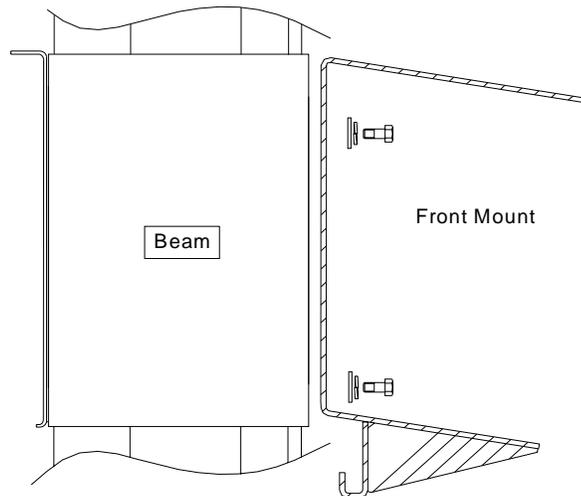

FIGURE 3
14. When front mounting the beam, simply secure the bracket to the cradle on the front of the carrier using four 1/4"-20 x 1" HHCS and related hardware, located in Poly Bag labeled "D". See **Figure 3**. (See Figure 12 for more detail).